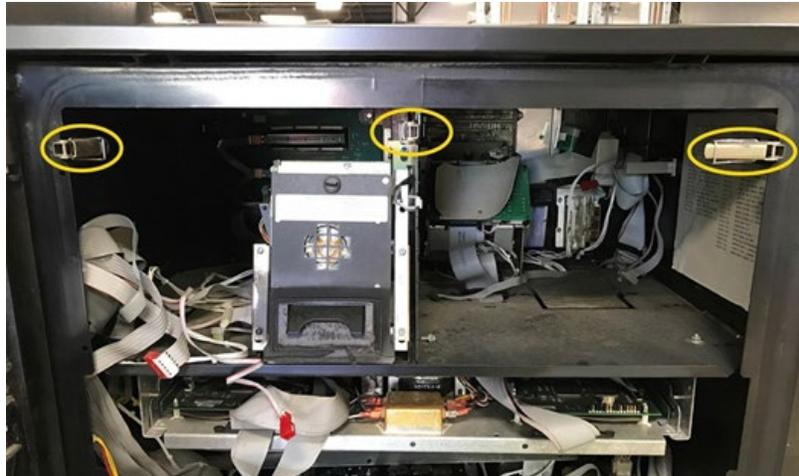

Figure 27
- 5) Disengage 3 inner latches holding the main dispenser door. See Figure 27.